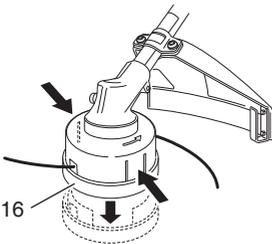

Fig. 21
(1) Remove the case (16) by firmly pushing inward the locking tabs with your thumbs as shown in Fig. 21.